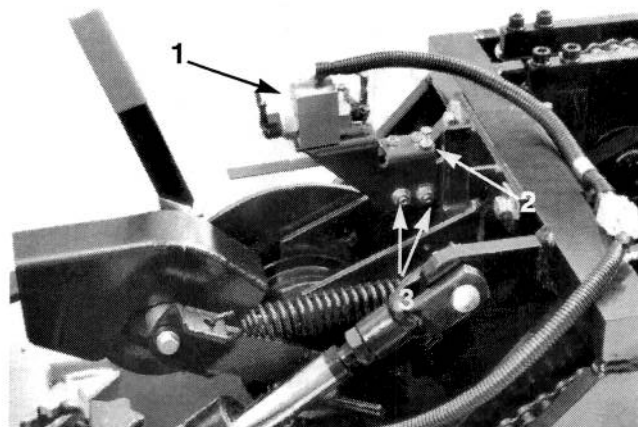

Figure 12
5. Check the coring head switch (Fig. 12) with a continuity tester or ohm meter and replace if damaged. The switch plunger must be depressed when the coring head is in the raised position.
- D. Loosen the adjusting screw jam nut and (2) flange nuts (Fig. 12).
- H. Tighten the adjusting screw jam nut and (2) flange nuts.